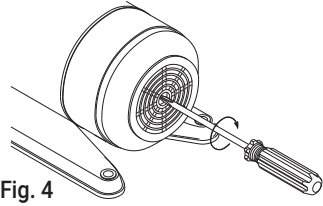

Fig. 4
3. If the pump sticks after periods of inactivity, a screw driver slot is provided on the motor shaft end to free up the pump/motor. To do so, insert a screw driver in the slot in the motor shaft as shown in Fig 4 and turn to free the rotor. If this does not remedy the problem, the unit will need dismantling.